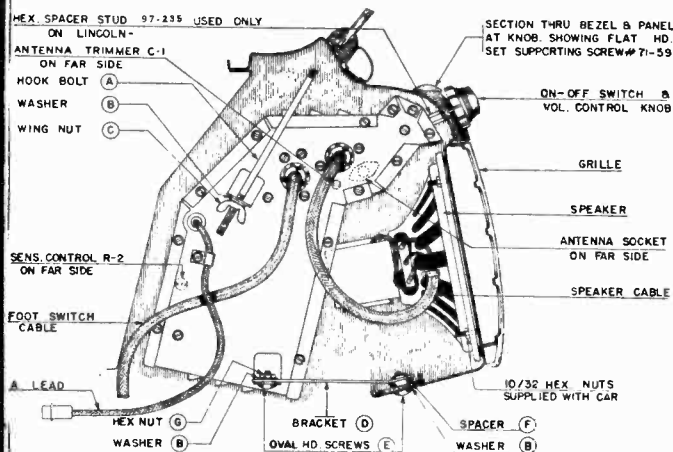

FIG. 2
IMPORTANT: 1200 K.C. ANTENNA ADJUSTMENT. After the receiver has operated for approximately 15 minutes, tune in a weak station near 1200 Kc. Adjust the antenna trimmer (C1, Fig. 2) for maximum signal.
- 5—Apply lock washers "B" and wing nuts "C" to the hook bolts and tighten them sufficiently to hold the receiver in place while installing the lower support brackets "D." Fasten the tapped end of the brackets to the instrument panel, using spacer washers "F," lock washers "B", and oval head screws "E." Fasten the other end of the bracket to the lower angle bracket of the receiver. Tighten all screws and nuts so that the receiver is held firmly in place (Fig. 2).
- 3—Fasten the foot control switch in place with the sheet metal screws furnished. Dress the cable so that the plug can be inserted into the foot switch cable receptacle at the left side of the receiver as shown in figure 2.